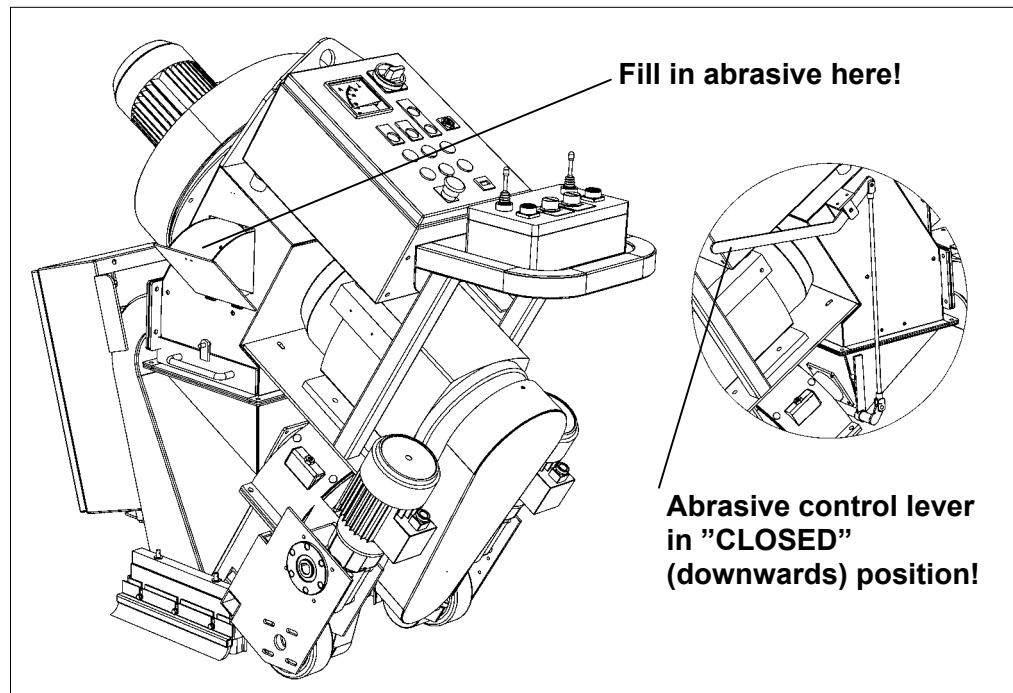

Fig. 5.1
- Check that the shot valve is closed (abrasive shot valve handle downwards, see fig. 5.1).